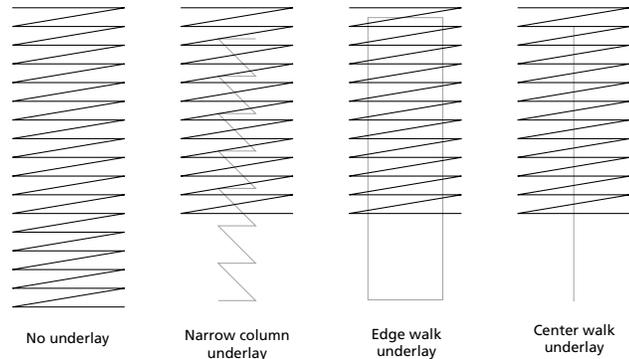

**Figure 5-24**
2. Click on the Style Name in the dialog box (Figure 5-24).